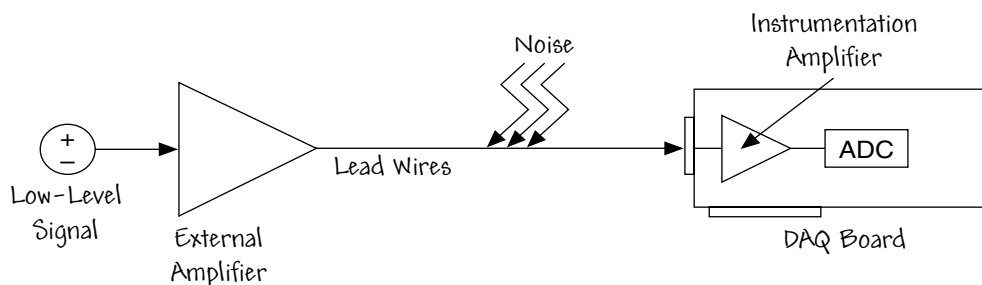

FIGURE 8.16
- **Amplification:** This is the most common type of signal conditioning. Amplification maximizes the use of the available voltage range to increase the accuracy of the digitized signal and to increase the signal-to-noise ratio (SNR). Low-level signals should be amplified at the DAQ board or at an external signal-conditioning peripheral positioned near the source of the signal, as shown in Figure 8.16. One reason to amplify low-level signals close to the signal source, instead of at the DAQ board, is to increase the signal-to-noise ratio. Consider the case where you amplify the signal only on the DAQ board. Then the DAQ board will also measure and digitize any noise that enters the lead wires along the path as the signal travels from the source to the DAQ board. On the other hand, the ratio of signal voltage to noise voltage that enters the lead wires is larger if you amplify the signal close to the signal source. Table 8.2 shows how the SNR changes with the location of amplification.